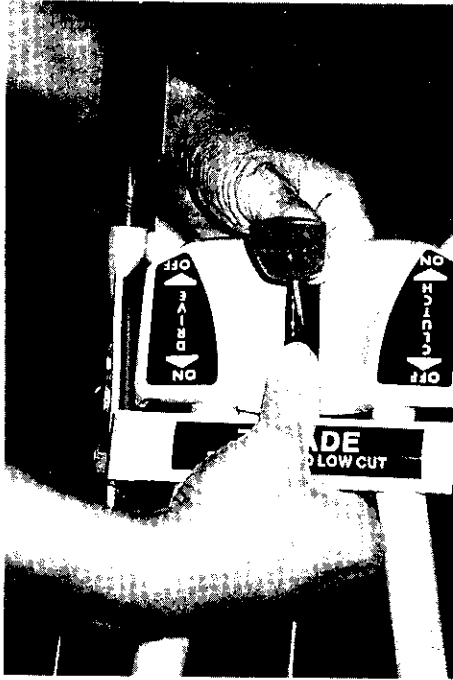

FIGURE 11
6. See Fig. 11: Line the complete knob and control body unit with the panel slot. Use both hands and push the control body unit into the panel slot until it locks in place.